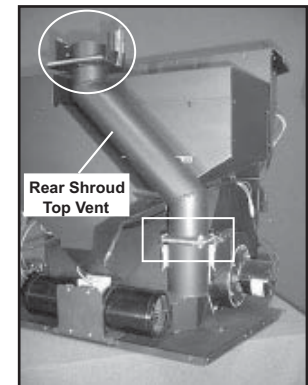

Figure 20.3
3. Use (2) 1/4 - 20 x 3/4 inch bolts with nuts to install rear shroud top vent to the exhaust transition. See boxed area in **Figure 20.3.** (Circled area, top vent adapter, will be installed later).
7. **For Top Vent Installation:** Install 3 inch or 4 inch (76 or 102mm) top vent adapter. See circled area in **Figure 20.3 on page 20.** NOTE: This adapter may be attached to outside venting prior to latching it on to the top vent pipe.